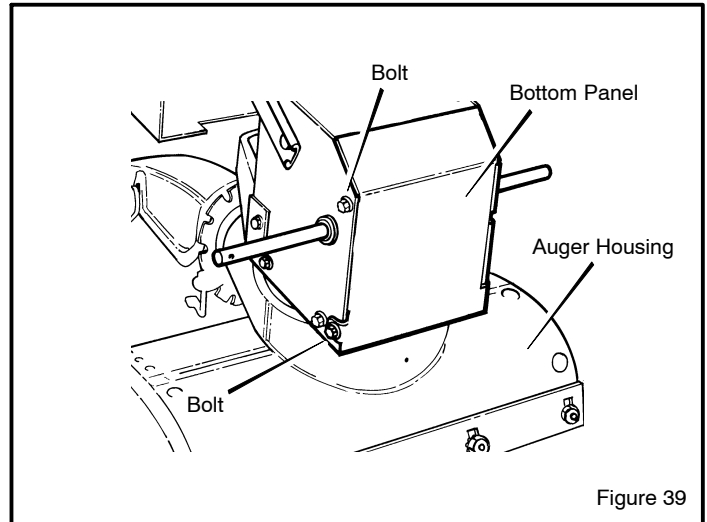

Figure 39
2. Loosen the **bolts** on each side of the **bottom panel** (see Figure 39).
12. Install the **bottom panel** (see Figure 39).